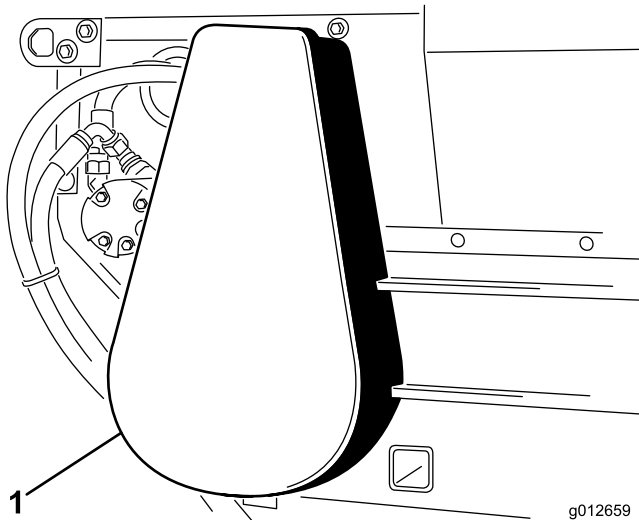

Figure 20
1. Remove chain cover (Figure 20).